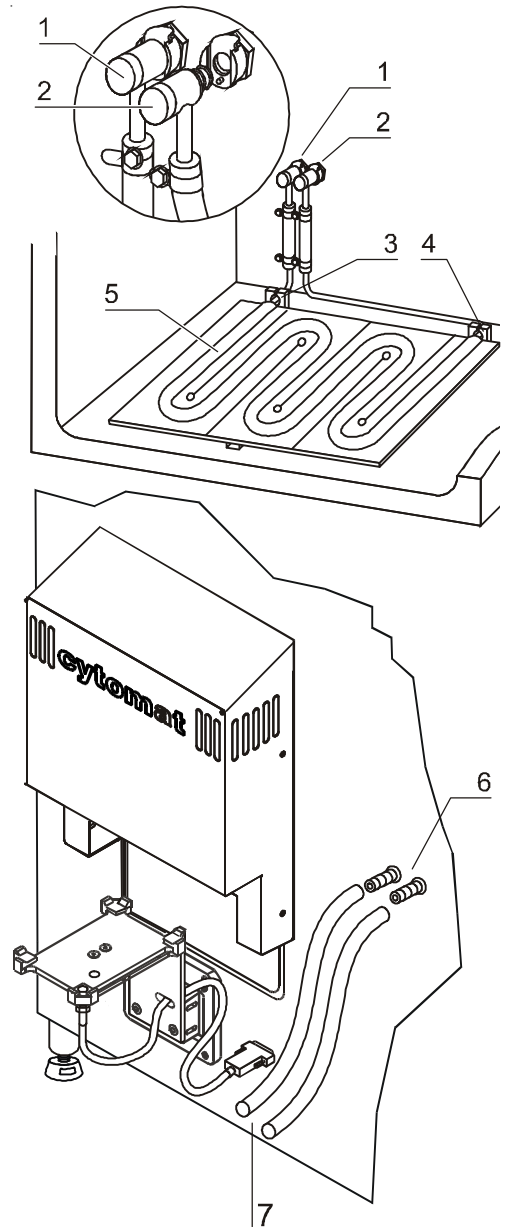

Fig. 22
1. **Fig. 22:** Place heat exchanger plate [5] into chamber floorpan. Place isolating blocks [3] and [4] onto inflow and outflow lines.